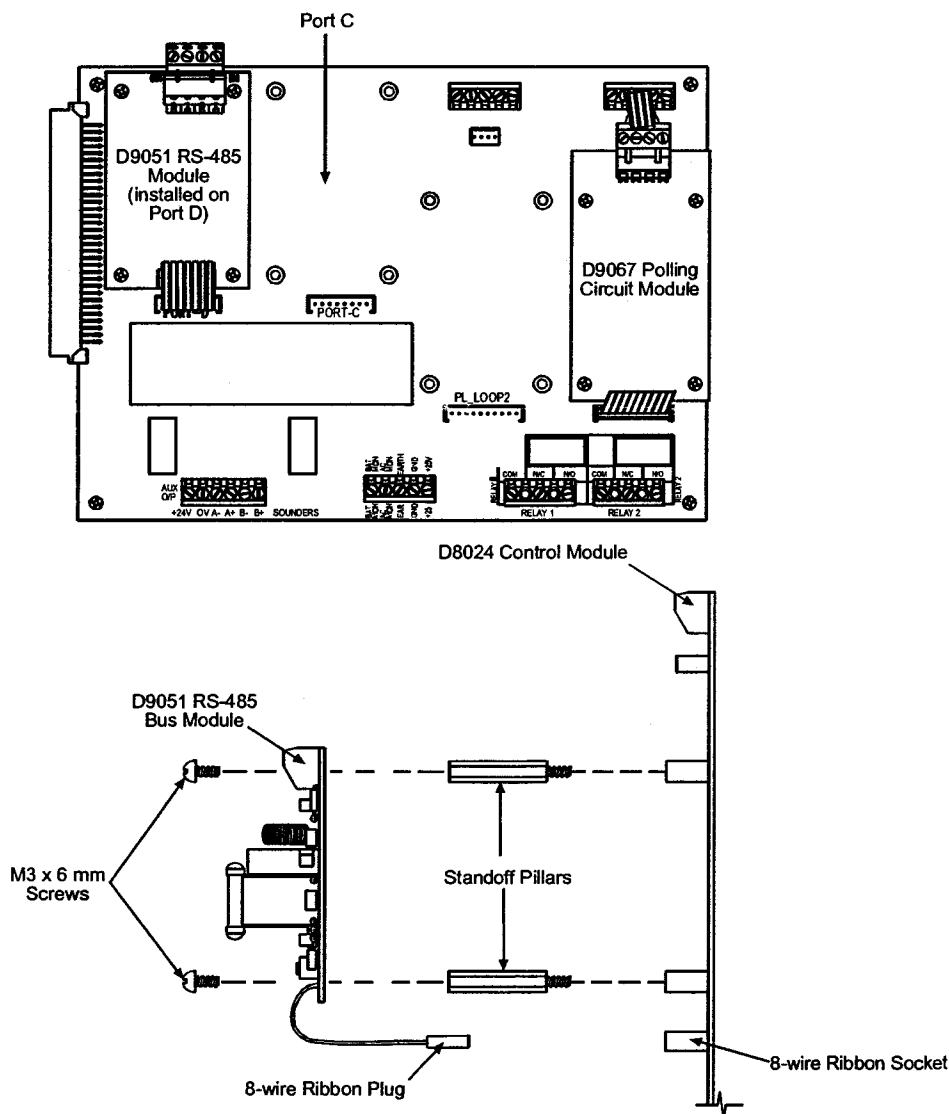

Figure 1: D9051 - D8024 Mounting
- 3) Connect the eight-wire ribbon plug into the eight-wire ribbon socket. See Figure 1.